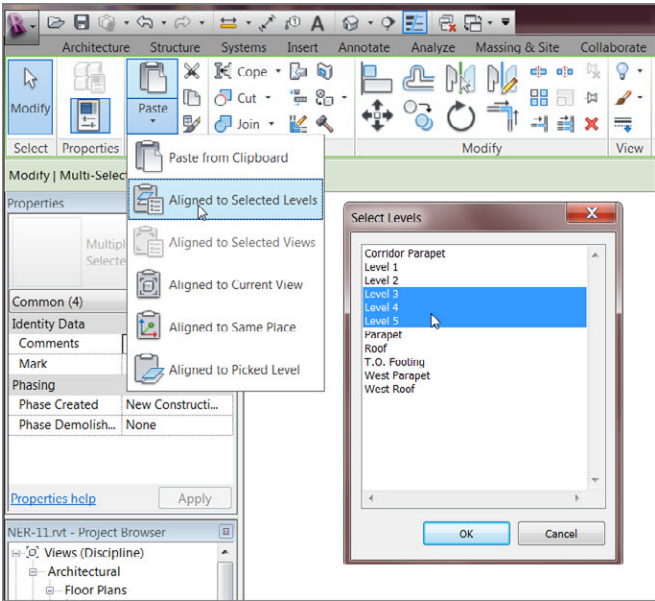

FIGURE 10.30: Paste > Aligned to Selected Levels
3. Click Paste > Aligned To Selected Levels, as shown in Figure 10.30.